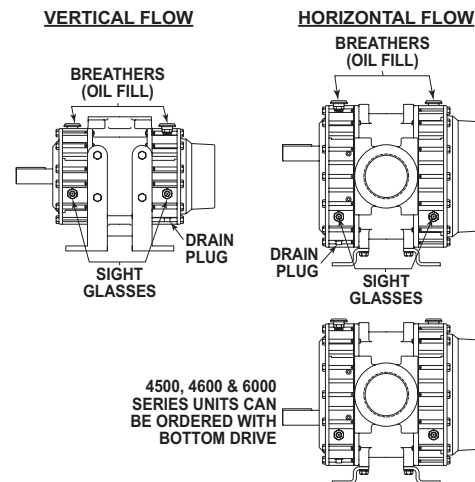

Figure 4-3 – Flow Configurations
- If the flow direction is changed, relocate the oil level sight glasses and breathers to the proper positions, as shown in **Figure 4-3**.